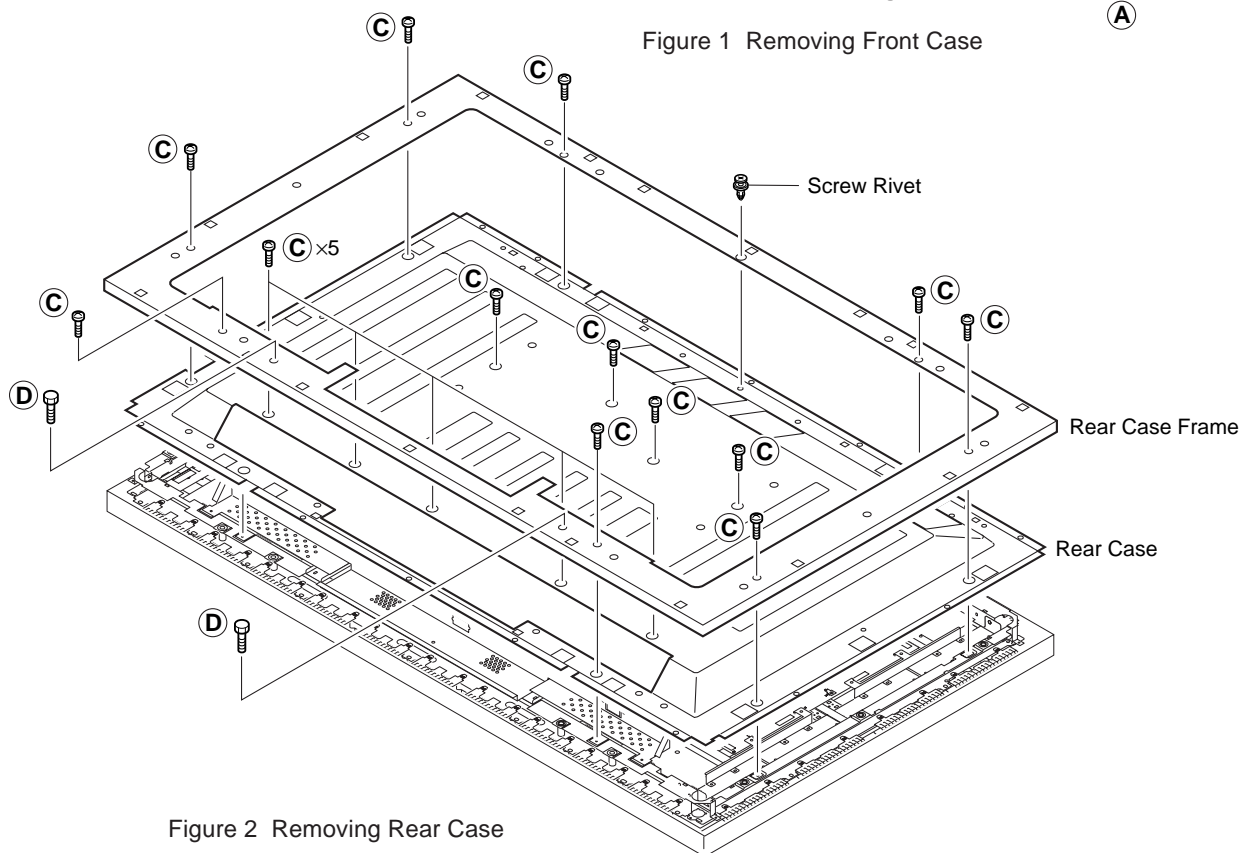

Figure 2 Removing Rear Case
2. Removing Rear Case (Figure 2)